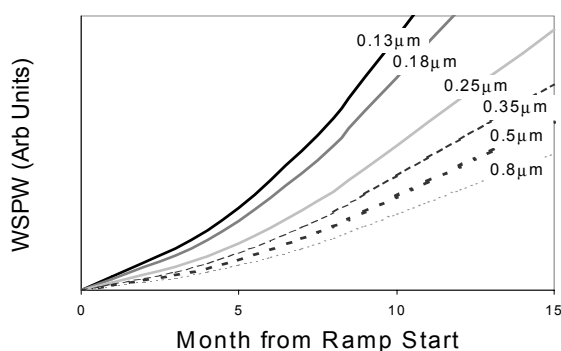

Figure 1. Intel Initial High Volume Manufacturing Ramp Rates
In 1965 Gordon Moore observed that transistor density doubled every 18 months (1). "Moore's Law" is driven by the recognition that competition is established by delivering process technologies on "the leading edge" of performance and density in high volumes. Figs. 1 and 2 show that for more than the past six technology generations Intel has ramped high performance logic technologies at continuously increasing rates and ever improving yield levels even though the technology introduction cycle time has been shrinking.